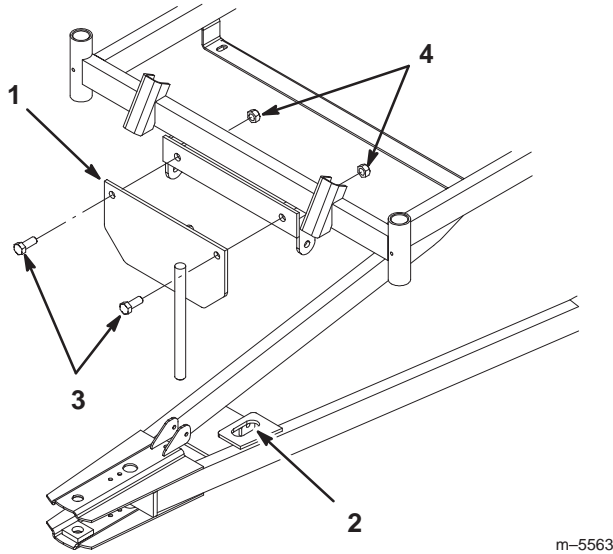

Figure 8
3. Insert the shaft on the pulley plate assembly into the slot in the blade frame and secure the assembly to the front of the traction unit with 2 bolts (1/2 x 5/8 in.) and locknuts (1/2 in.) (Fig. 8).